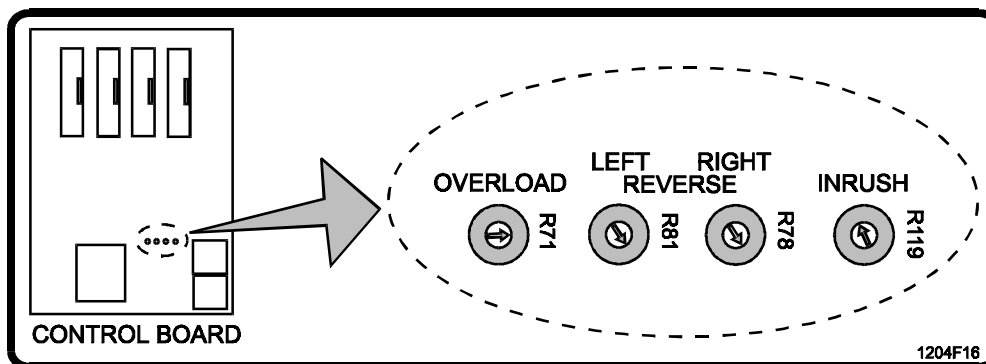

Figure 15. Gate Sensitivity Adjustments Location.
- ◆ Before starting the adjustments, verify that the overload pot is set to 3:00 o'clock, the Left and Right reverse pots are set fully clockwise, and the Inrush pot is set to the 11 o'clock position (see Figure 15).